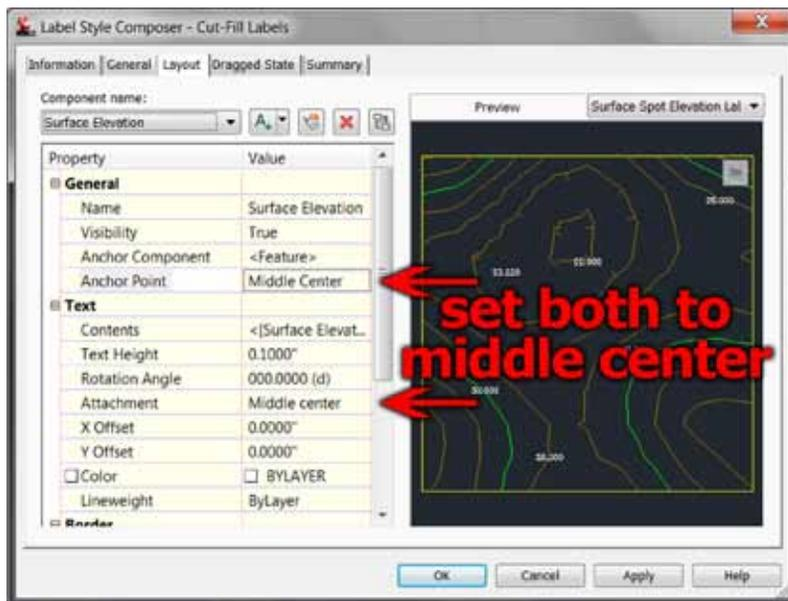

Figure 8: Setting both Anchor Point and Attachment to "Middle Center" allows the label to define the measurement and the sample location.
Step 1: On the Settings tab of the Toolspace, expand the Surface group followed by the Label Styles group. **Step 2:** Right-click on the Spot Elevation heading and select New to open the Label Style Composer. **Step 3:** Select the Information tab and name the style "Cut-Fill Labels." **Step 4:** Select the General tab and use the Label Layer setting to select an appropriate layer name for the labels. (Example – volume lbls). **Step 5:** Select the Layout tab, choose an appropriate Text Height, and set the Anchor Point and the Attachment settings to "Middle Center" (see Figure 8).